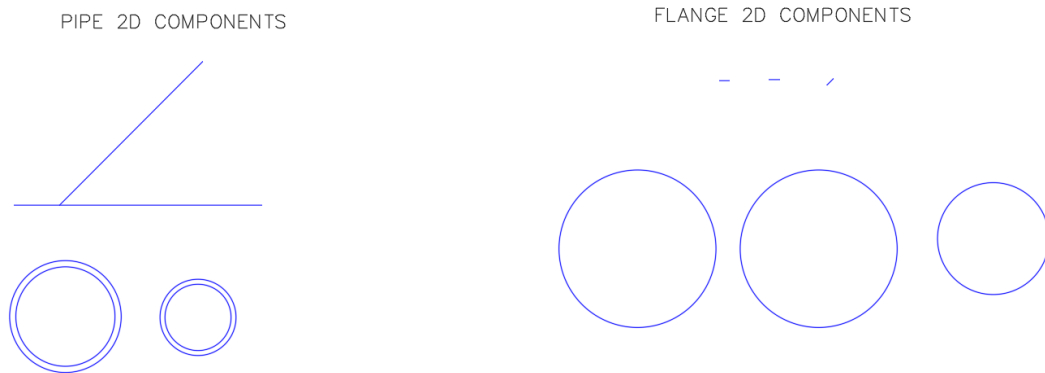

Figure 7.4 – 2D components that will be used to create the 3D model of our custom fitting
3. We'll also go ahead and create four more circles to represent the inner and outer diameter of our fitting. That said, let's go ahead and create our 12-inch and 8-inch diameter circles to represent the inner diameter of our pipes and then use the OFFSET command to apply the thickness of our pipes according to the table, which are 0.75 and 0.60 respectively, leaving us with a setup similar to that shown in *Figure 7.4*.